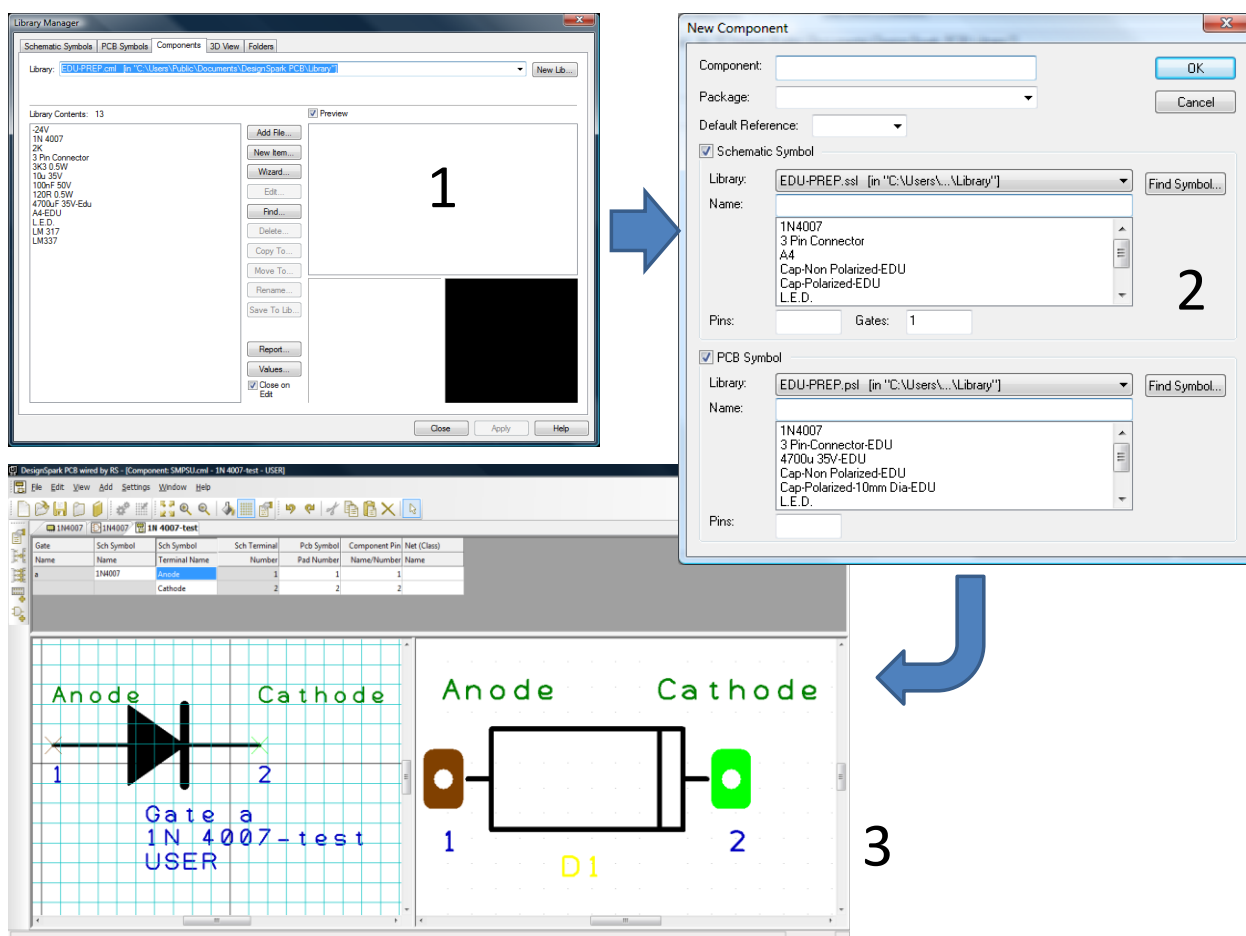

Figure 6-29: Library Creation – New Component
41. On the “Components” tab, we select the “New Item” button as shown in Figure 6-29 (image 1).